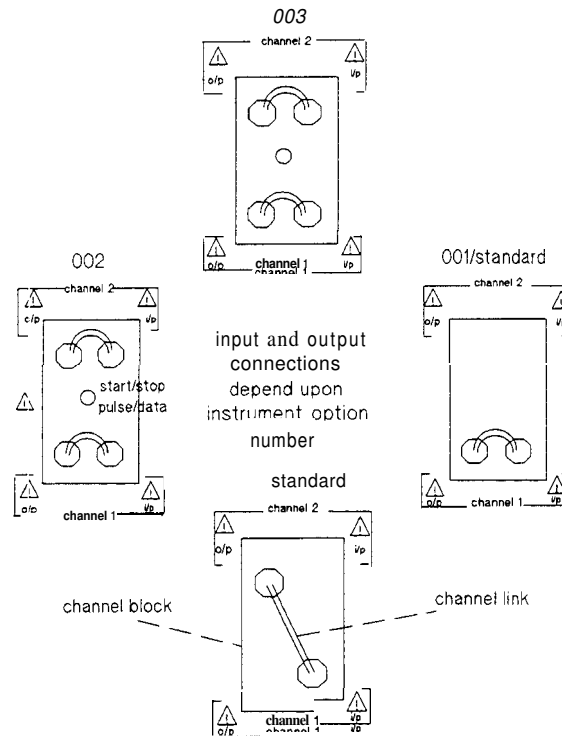

Figure 5-12. Channel block link configurations
2. Locate the block which holds the input and output channel links, there are different configurations for these connections on the various options of the HP 8133A. These configurations are shown in Figure 5-12: